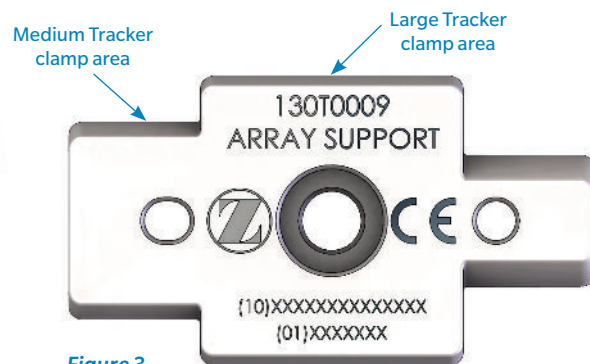

Figure 3
- There are two separate points of attachment on the array support that are dependent on the size of clamps selected (Figure 3).